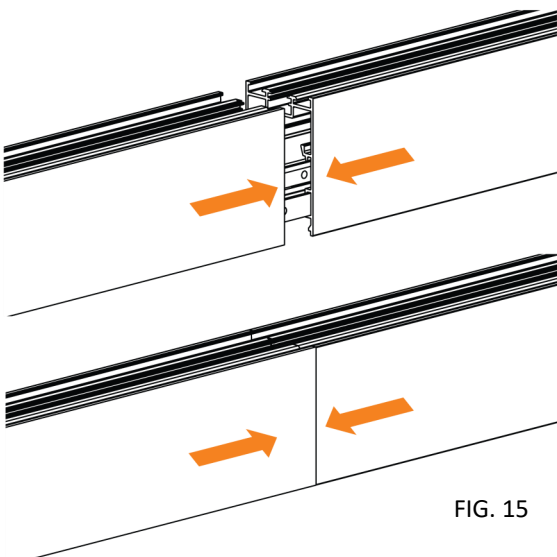

FIG. 15
STEP 3.4: Create ETE connection (B)
- Connect the next extrusion piece (Fig. 15) and ensure a flush join to avoid light leaks.